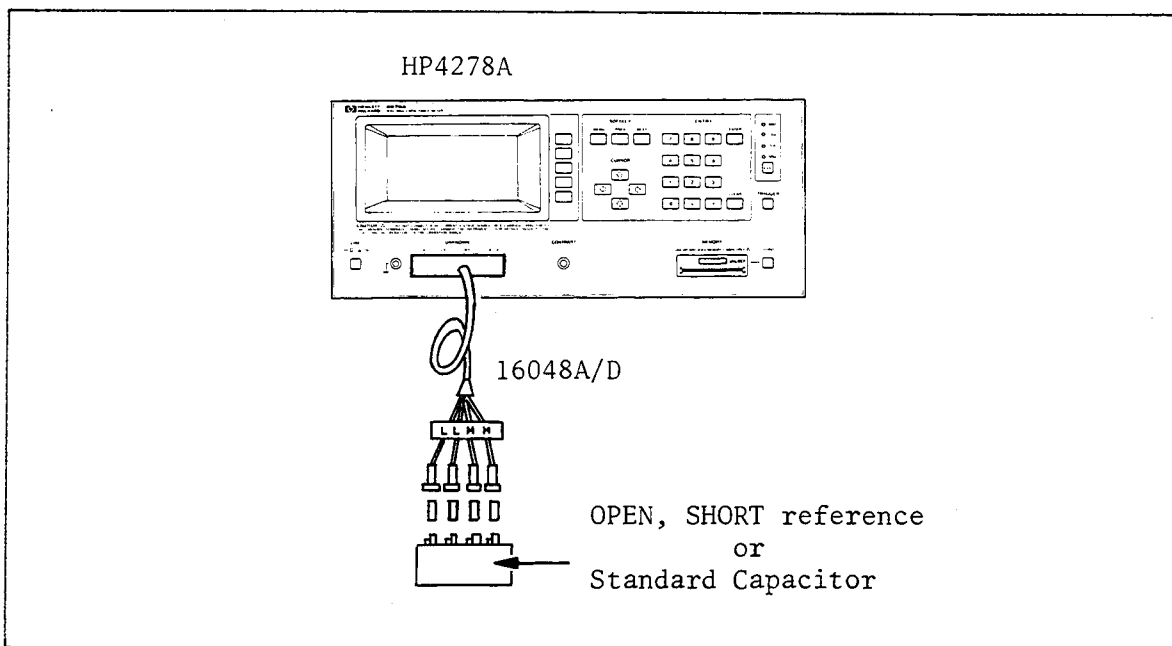

Figure 6-4. 1kHz Capacitance Accuracy Test Setup 2
28. Disconnect the 10Ω standard resistor, and connect the **OPEN** reference using the 16048A test leads as shown in Figure 6-4.